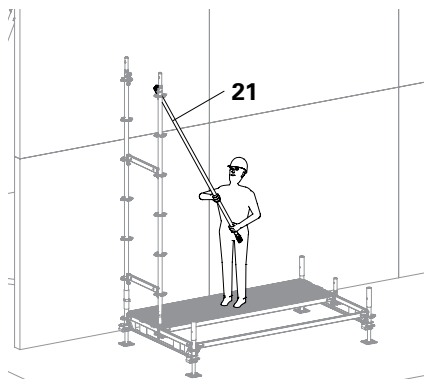

Fig. D3.02
3. Mount Guardrail EPG (21) on the Guardrail Holder EPW of the outer Standard. (Fig. D3.02)